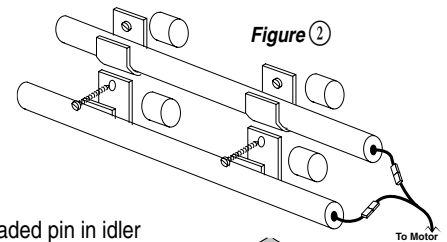

Figure 2
- 5 Mount **Battery Wands** to wall using provided **Mounting Clips** (see Fig. 2). Be sure to locate the **battery wands** where they can reach the motor without interfering with shade/roller operation.